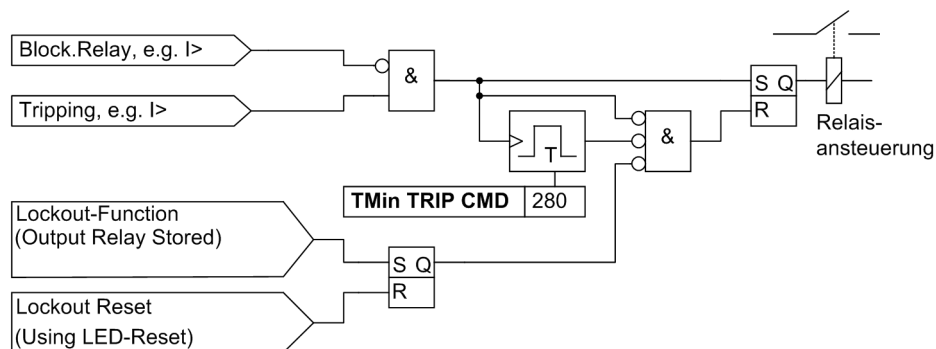

Figure 2-141 Terminating the Trip Signal, Example of a Protective Function
- A trip command once transmitted is stored (see Figure 2-141). At the same time, the minimum trip command duration **T TRIPCOM MIN** is started. This trip signal duration timer ensures the trip signal is transmitted to the circuit breaker for a sufficient amount of time, even if the function which issued the trip signal drops out quickly. The trip signal is only terminated after all protection Functions drop out AND the minimum trip signal duration expires.